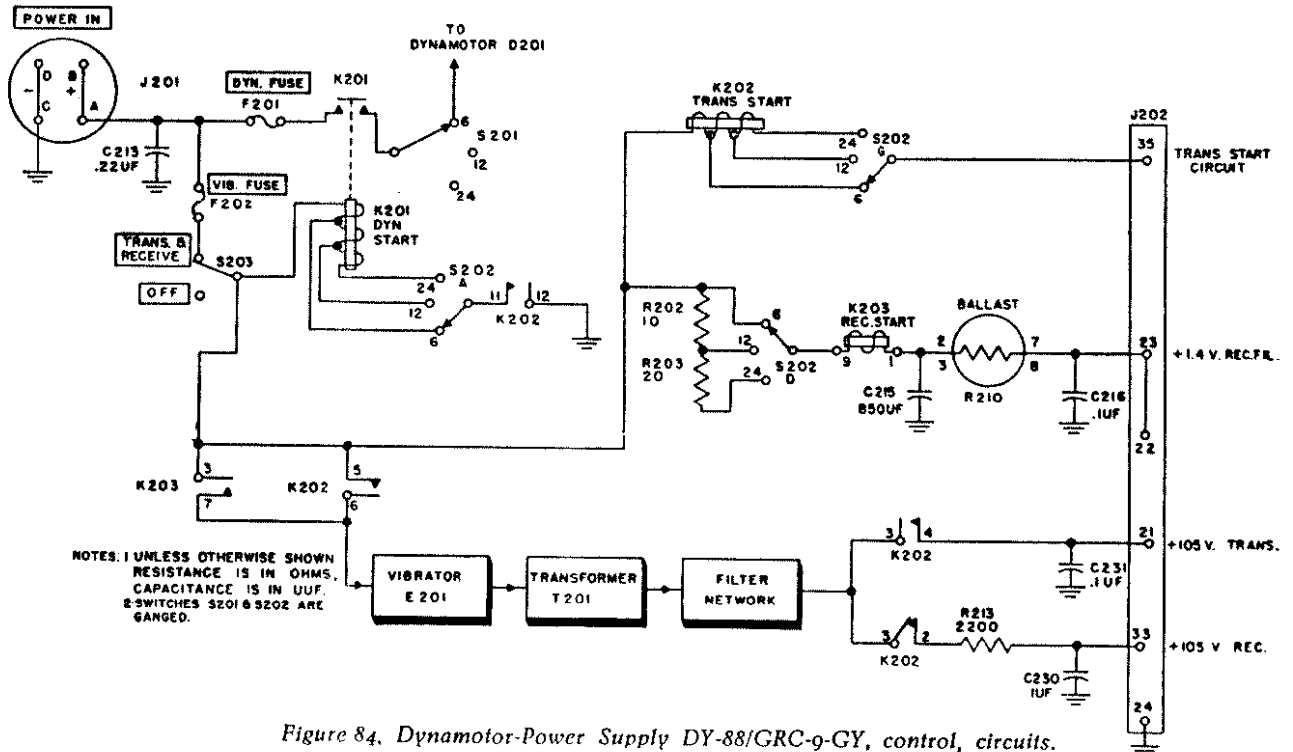
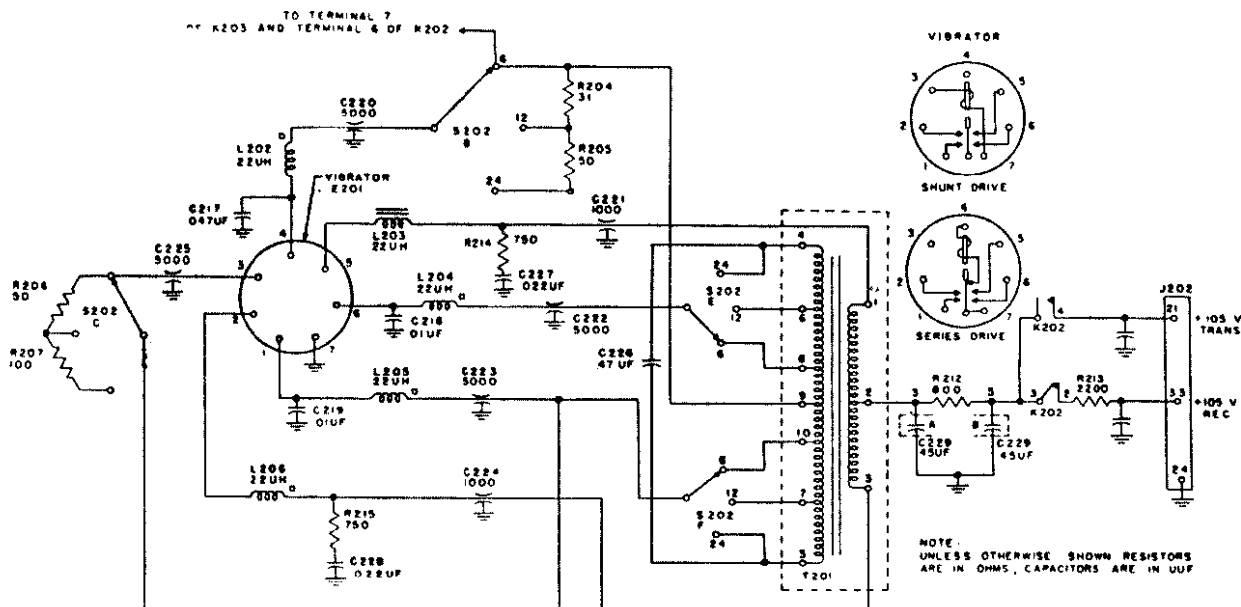

Figure 84. Dynamotor-Power Supply DY-88/GRC-9-GY, control, circuits.
Figure 85. Dynamotor-Power Supply DY-88/GRC-9-GY, vibrator circuits.
a. FUSES. The vehicular battery is connected to the + and — terminals of the dynamotor power supply across capacitor C213 (fig. 84). C213 is an r-f bypass capacitor which prevents the input cables from radiating r-f noise that would interfere with radio reception. DYN FUSE F201 protects the dynamotor circuits. This fuse must be changed each time the battery voltage is changed (par. 43). VIB Fuse F202 protects the vibrator circuits.
b. Switches. The voltage selector switches, S201 and S202, in the dynamotor power supply are ganged to one common shaft and perform the function of connecting the correct circuit components when a 6-, 12-, or 24-volt vehicular battery is used. There are several wafer sections of S202, numbered S202A to S202G (figs. 84 and 85). TRANS & RECEIVE-OFF switch S203 is a single-section rotary switch.
107. Receiver Filament Supply (fig. 84)
a. Synchronous vibrator E201 and transformer T201 (fig. 84) are used to supply 105 volts d-c at 17 ma to the receiver plate and screen circuits during stand-by periods, and
b. Receiver start relay K203 is energized when control E is at the SEND or STANDBY position (par. 107). Battery current passes through closed contacts 3 and 7 of K203, or 5 and 6 of K202, or both (fig. 84), to voltage selector switch S202B and to the center tap (terminal 9) of transformer T201 (fig. 85). S202B introduces the proper resistance into the circuit to permit the circuit to operate from each of the three different battery voltages used.
- (1) The series-driven vibrator coil, connected from pin 4 to the stationary contact, and the movable arm, connected to pin 7, constitute an ordinary buzzer similar to the doorbell type (fig. 85). However, the vibrating arm or reed moves back and forth many times more rapidly than in the familiar doorbell buzzer. The current through the vibrator coil attracts the reed, breaking the circuit to ground. This de-energizes the coil and the reed swings back in the opposite direction, completing the circuit to ground again. This action continues, causing the reed
a. TRANSMITTER START RELAY. When control E is turned to the SEND position, transmitter start relay K202 is energized and contacts 11 and 12 close to apply power to dynamotor start relay K201 (fig. 84). At the same time, contacts 5 and 6 and 3 and 4 of K202 close, while contacts 2 and 3 open (par. 110). Voltage selector switch S202G permits the relay to operate from a 6-, 12-, or 24-volt battery.
a. Closed contacts 5 and 6 of K202 apply battery power to the vibrator portion of the dynamotor power supply (fig. 84). The 105-volt output is applied through closed contacts 3 and 4 of K202 (contacts 2 and 3 now are open), terminal 21 of J202, and closed contacts 18 and 19 of keying relay K101 to the receiver (fig. 65).